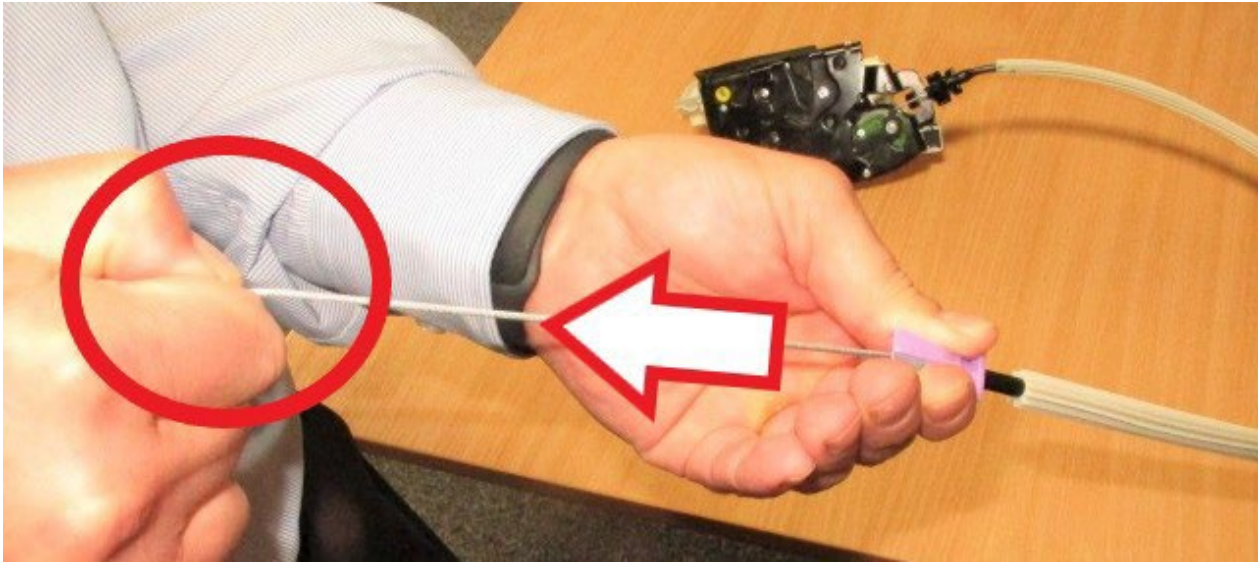
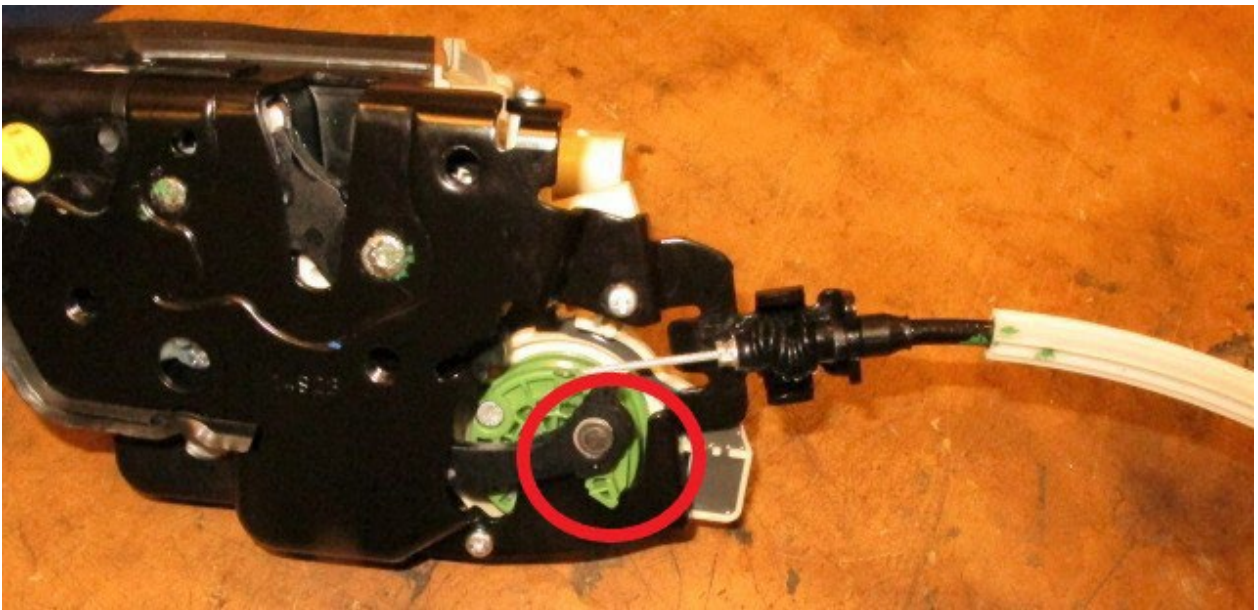

Figure 7
Figure 8
6) Pull the cable outwards (Figure 7) until the spool reaches the end stop (Figure 8)